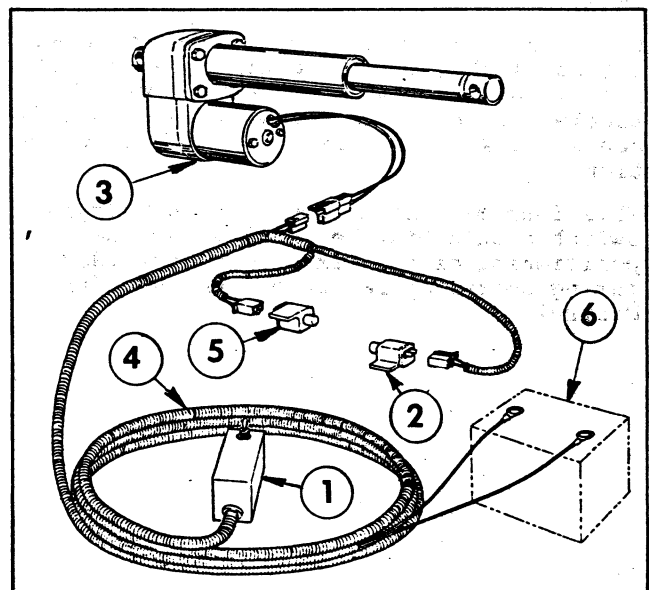

Figure 6
1. Connect the Wiring Harness to the Actuator Assembly as shown in Figure 6.